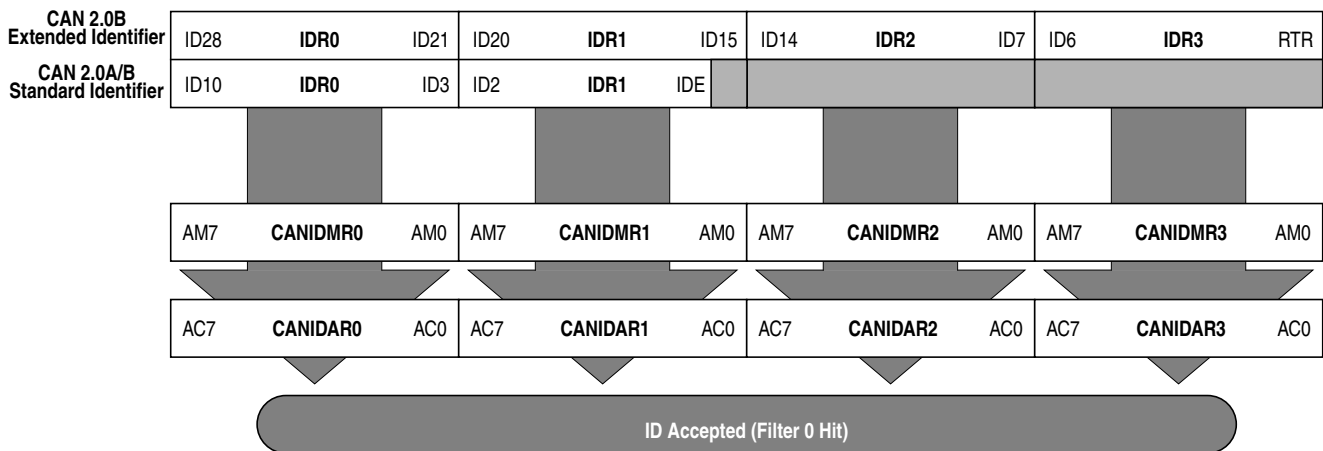

Figure 9-39. 32-bit Maskable Identifier Acceptance Filter
- The 11 bits of the standard identifier plus the RTR and IDE bits of the CAN 2.0A/B messages1. This mode implements two filters for a full length CAN 2.0B compliant extended identifier. Figure 9-39 shows how the first 32-bit filter bank (CANIDAR0–CANIDAR3, CANIDMR0–CANIDMR3) produces a filter 0 hit. Similarly, the second filter bank (CANIDAR4–CANIDAR7, CANIDMR4–CANIDMR7) produces a filter 1 hit.